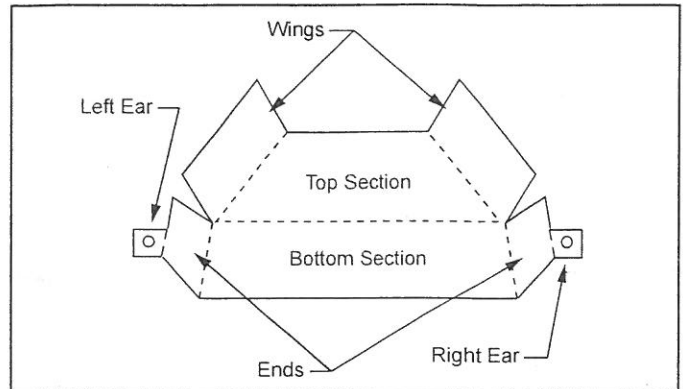

Figure 5 - Vigilant flue collar insert bends
**To fold the insert (Figure 5):**